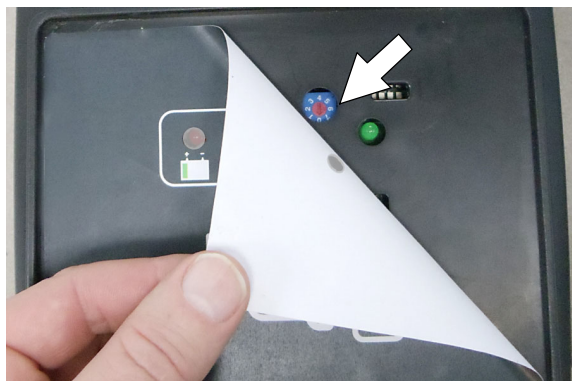

FIG. 113
- Carefully peel back the charger display label to access the dial settings (Figure 113).